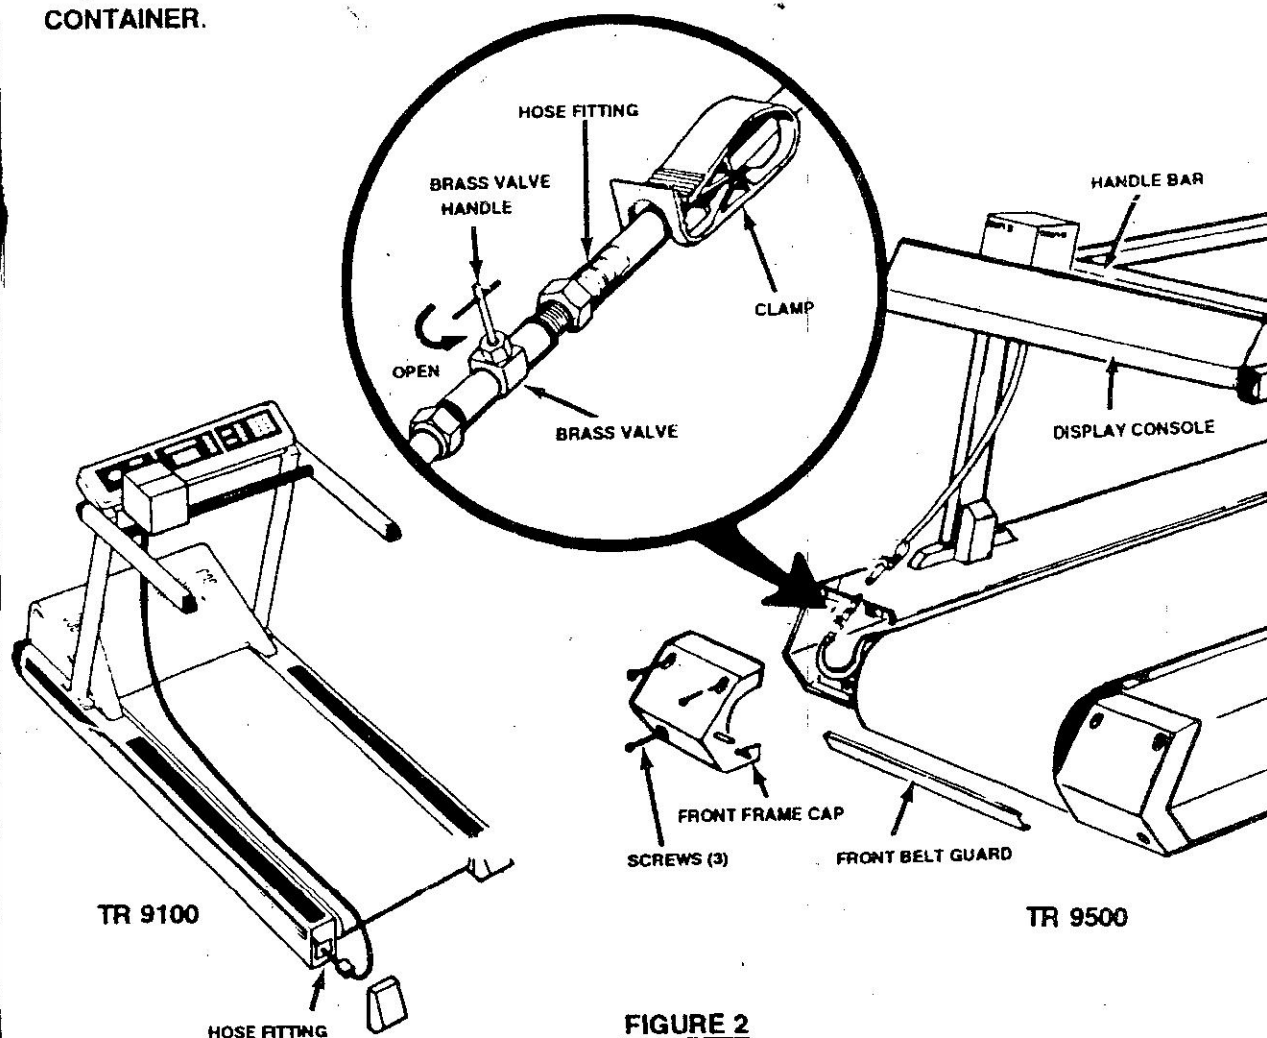

FIGURE 2
Step 1 (See Figure 2)
Step 2 (See Figure 2)
Step 4 (See Figure 2)
Step 5 (See Figure 2)
Step 6 (See Figure 2)